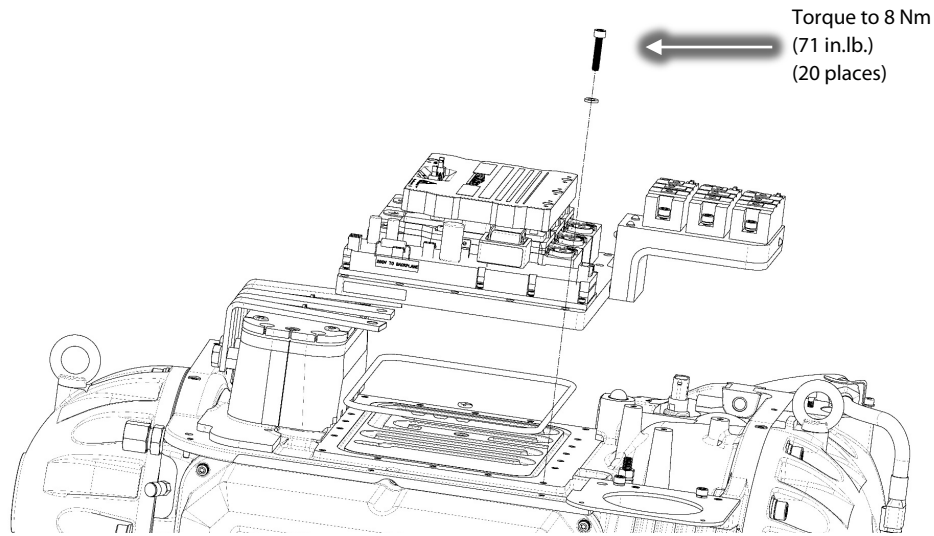

Figure 24 – Inverter Installation
8. Carefully, install the Inverter on the compressor housing with the SCR temperature sensor cable run underneath the SCR Cooling Manifold. Refer to Figure 24 (Inverter Installation).